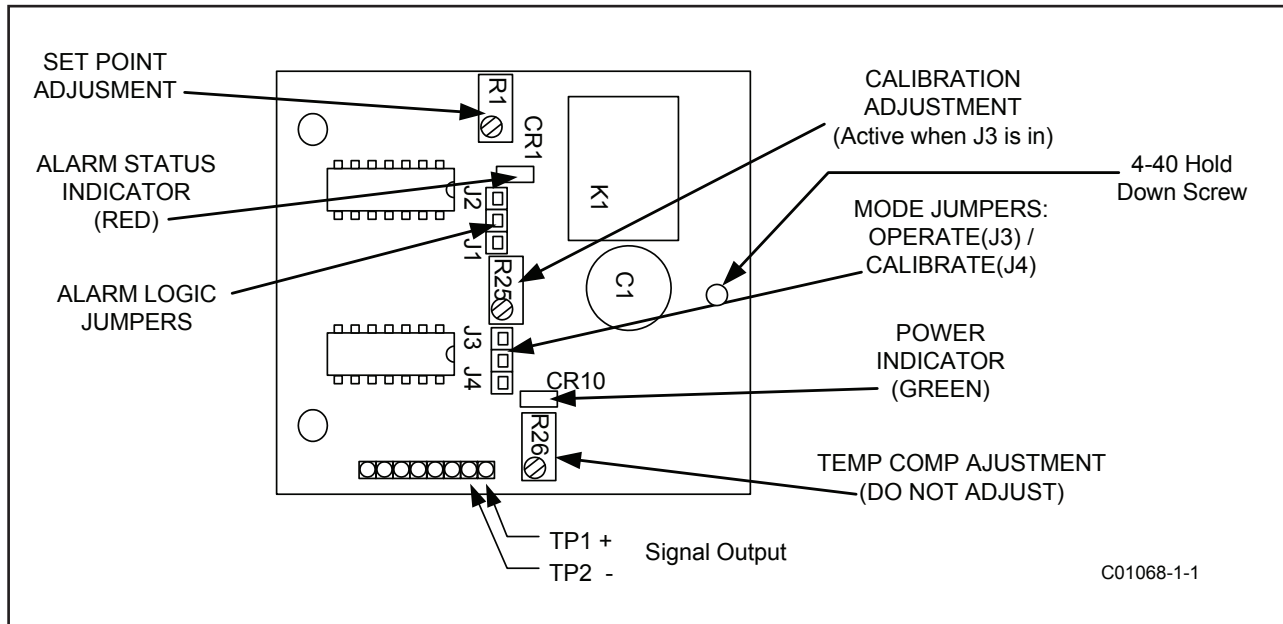

Figure 12 Control Board Adjustments for 100-240 Vac and 24 Vdc/Vac Power Input
3. With the enclosure cover removed, locate the 4-40 hold down screw next to the serial number block on the top control circuit (see Figure 12). Loosen the screw to release the edge of the top control circuit and flip up the top circuit to expose the bottom circuit.
2. With the enclosure cover removed, locate the 4-40 hold down screw next to the serial number block on the top control circuit (see Figure 12). Loosen the screw to release the edge of the top control circuit and flip up the top control circuit to expose the terminal blocks on the bottom side.
Apply power and look for the power indicator light. After power is established let the instrument warm up for 5 minutes. Run the process at normal and then at abnormal conditions. In most cases the instrument will detect a flow or level alarm with the factory settings. If the Instrument does not respond, responds slowly or the alarm responds opposite to the required indication, proceed to the section pertaining to the type of control circuit provided. Refer to Figure 12 and 13 to familiarize yourself with the location of the adjustment potentiometers and jumpers.